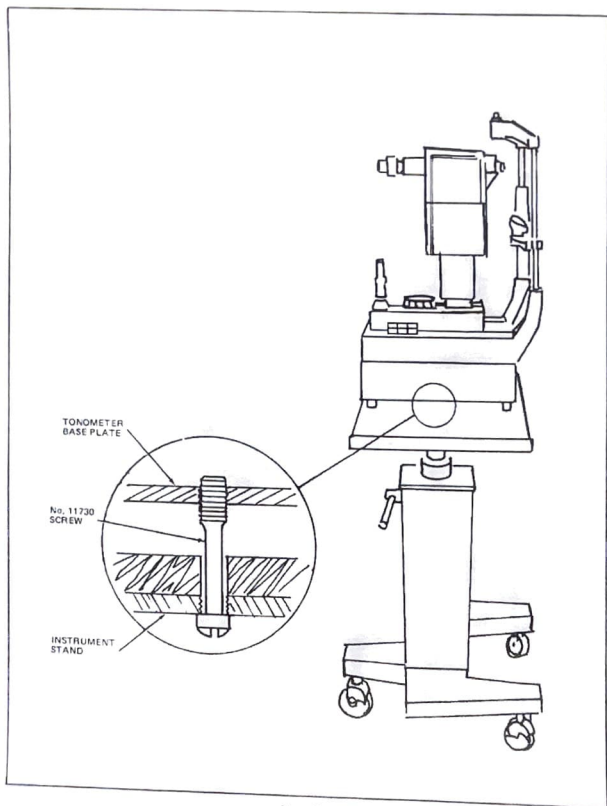

Figure 2.
1. Position Tonometer in central area of the table with the operator's side of the instrument on the single leg side of the table (Figure 2).
3. Feed No. 11730-1 screws (2) from the bottom and screw them into the base plate of the instrument.